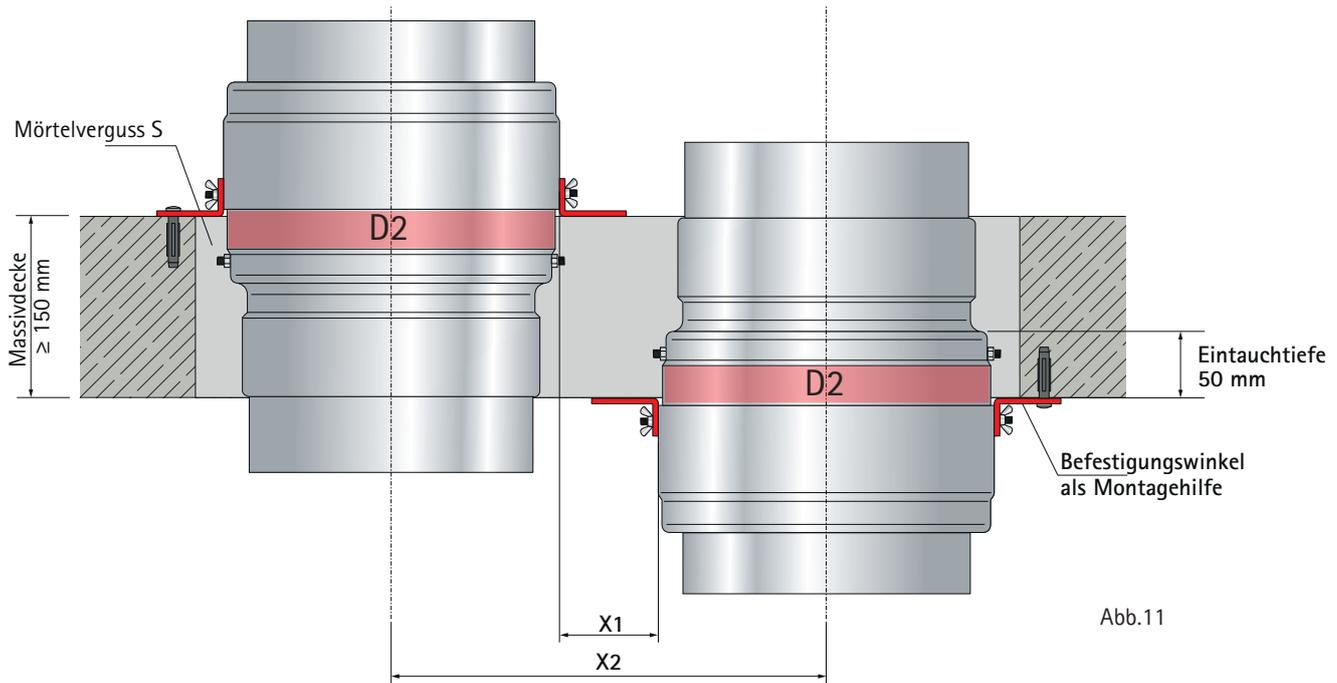

Abb.11
4. Position the fire protection damper with the mounting brackets flush with the upper edge of the ceiling when installing on top of the floor ceiling, or flush with the lower edge of the ceiling when installing below the floor ceiling (Fig. 11, page 8). use screws if necessary.
Create the installation opening through core drilling or penetration (Fig. 11, page 8):
4. Position the fire protection damper with the mounting brackets flush with the upper edge of the ceiling when installing on top of the floor ceiling, or flush with the lower edge of the ceiling when installing below the floor ceiling (Fig. 11, page 8). Use screws if necessary. The wall/ceiling-flush leg can be shortened if space is limited.
- Position the fire protection damper in the designated installation position on a mortar bed during wall assembly. Mounting brackets must align vertically and flush (Fig.11; Fig.14, ②) with the wall, use screws if necessary.
- Slide and position the fire protection damper into the installation opening. Mounting brackets must align vertically and flush (Fig.11; Fig.14, ②) with the wall, use screws if necessary. The wall/ceiling-flush leg can be shortened if space is limited.